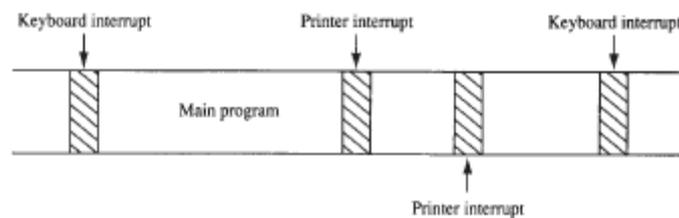

Figure 12-1: A time line that indicates interrupt usage in a typical system
- Interrupt processing allows the microprocessor to execute other software while the keyboard operator is thinking about what key to type next. (Figure 12-1)